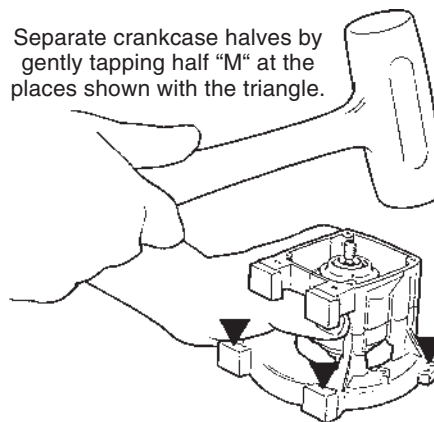

Figure 8.3 Tap crankcase halves with a hammer.
**STEP 2.** While firmly holding crankcase half "S," gently tap crankcase half "M" with a soft-faced hammer (Figure 8.3).